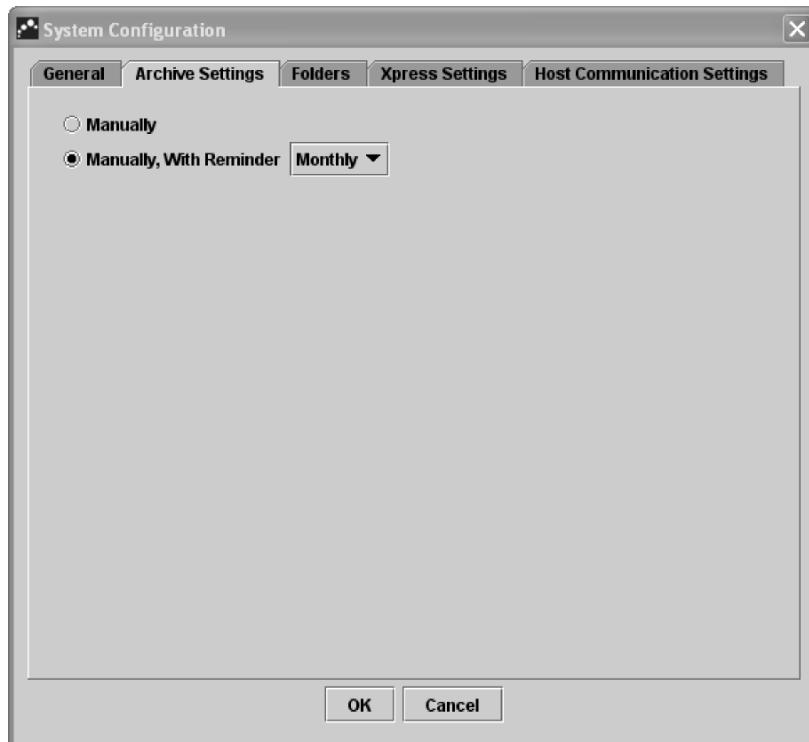

Figure 2-26. System Configuration dialog box (Archive Settings window)
2. Select the **Archive Settings** tab. The Archive Settings window appears (Figure 2-26).